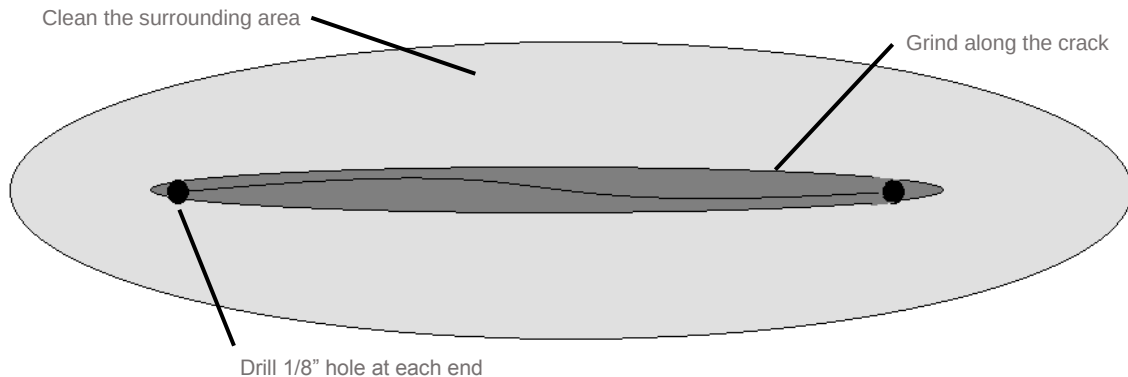

Figure 2.
8. Remove any paint within 2" of the fracture. Use a soft pad grinder or sander (Figure 2.)